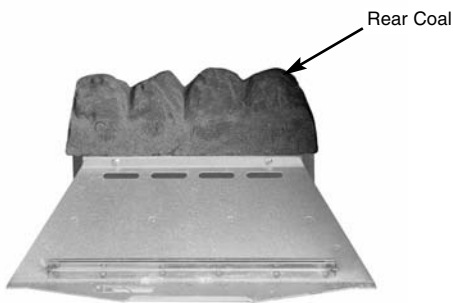

Fig. 42
1. Place the rear coal on the rear coal retainer ledge in a central position (Fig. 42).